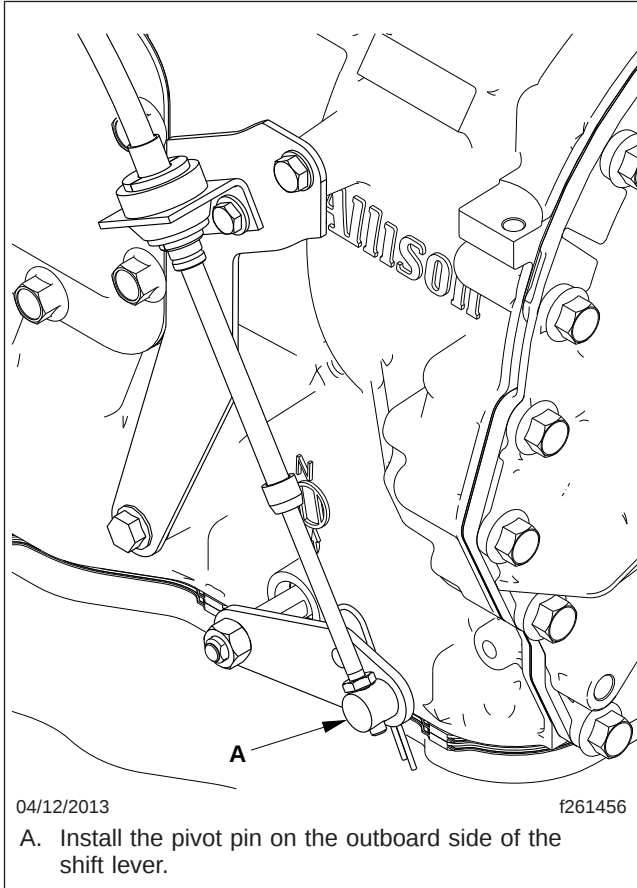

Fig. 12, Isolator Kit Installed, Kit KPP 294201
13. Install the pivot pin on the outboard side of the shift lever, as shown in **Fig. 12**.